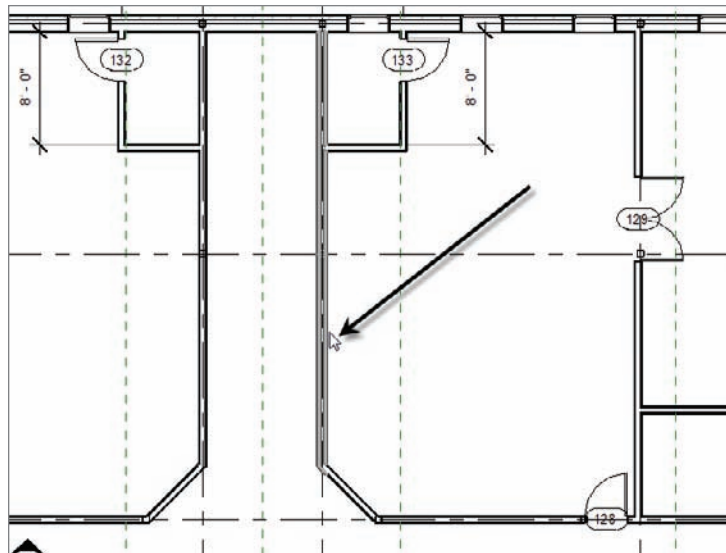

FIGURE 11.63 Picking one of the corridor partitions to tag
4. Pick the wall indicated in Figure 11.63.